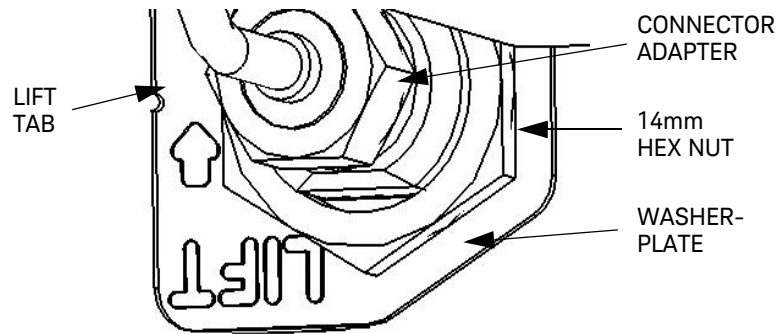

Figure 4-19 Connector-adapter parts
- 11 On the back side of the connector-adapter, place the washer plate and the 14mm hex nut over the SMA connector and secure. See Figure 4-19.